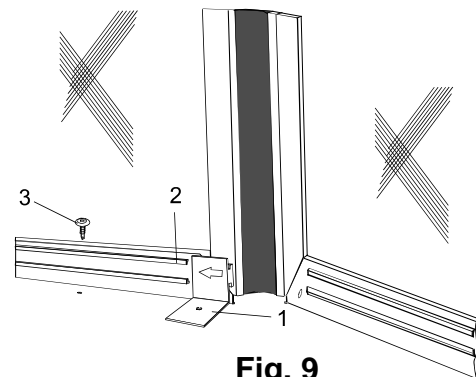

Fig. 9
1. Insert two hold down brackets (1) into the slot (2) in the bottom of each screen panel (see Fig. 9).